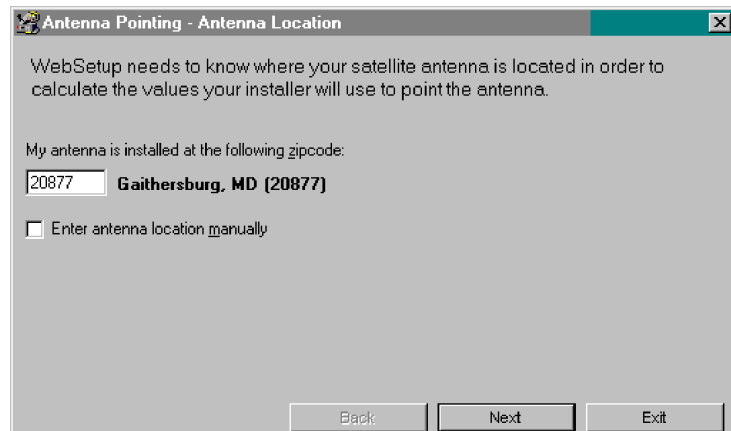

Figure 25: Antenna Location; verify ZIP code
7. Power on the DW4020. Select *Start*→*Programs*→*DIRECWAY Installer*→*Antenna Pointing*. The *Antenna Pointing - Antenna Location* screen appears. See Figure 25.